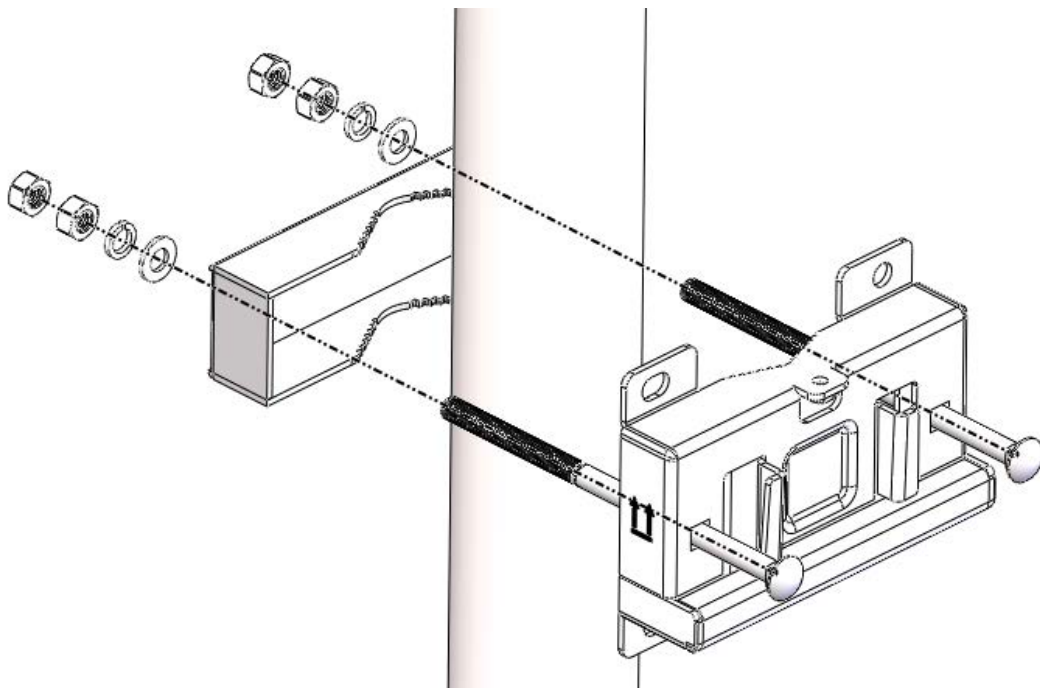

Figure 4-25 Fix the bracket on the rod
8. Install the optical cable, as shown in Figure 4-25.
1. The Up-Down Activity Bracket and Clamp Plate are installed on the holding pole by M10X150 bolts, nuts, flat washers, and spring washers, as shown in figure 4-25. The diameter of the Holding pole should be between 40 mm and 120mm and the strength should be sufficient.
2. Fix a fixed bracket to the LPA. Pay attention to the installation direction. The LPA can be installed in three positions: back and side, as shown in Figure 4-25.